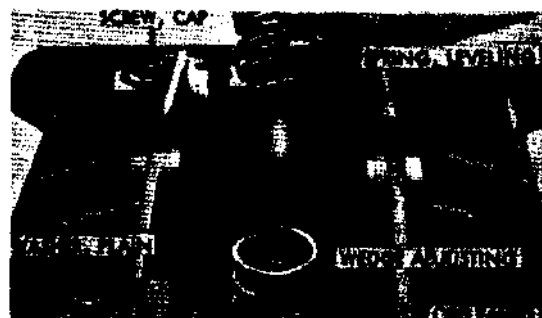

Figure 114. Removing leveling springs
- (4) Lift two leveling springs (fig. 114) from subbase.
- (5) Remove cap screw, hex-nut, and plain washer. Remove adjusting wedge (fig. 114).
- (4) Install adjusting wedges (fig. 114) and secure capscrews, plain washer, and nut.